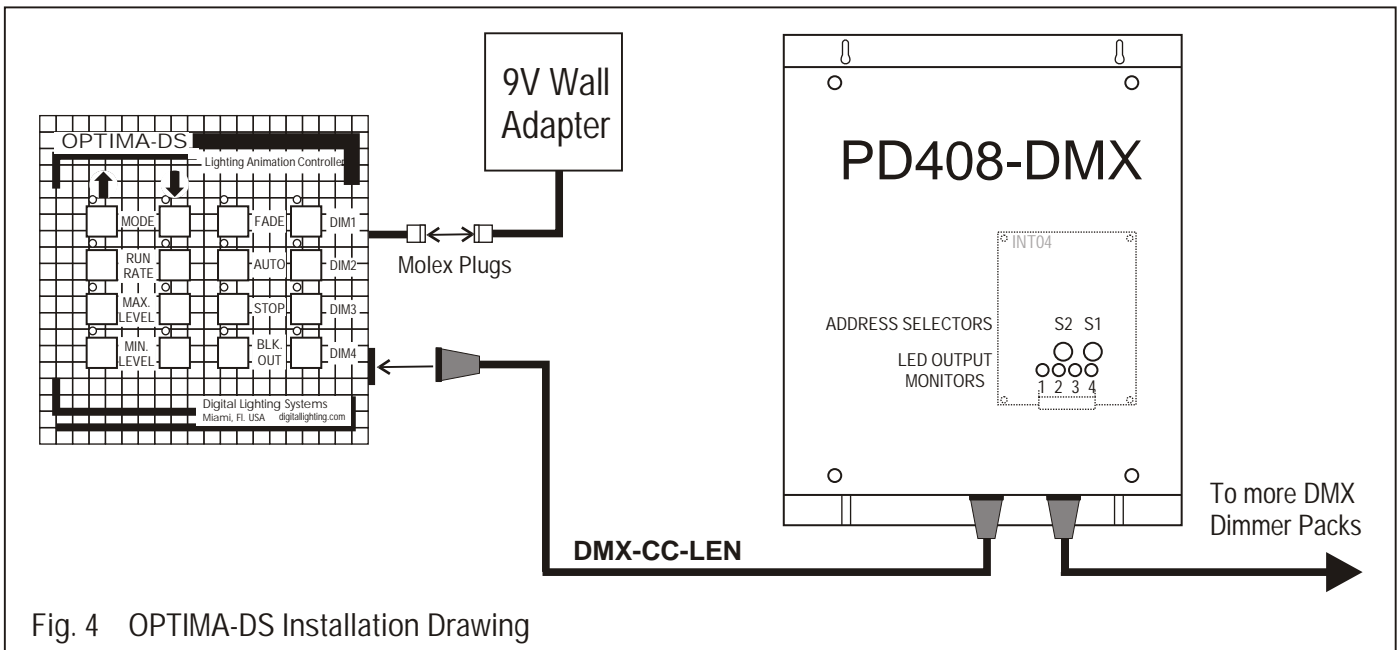
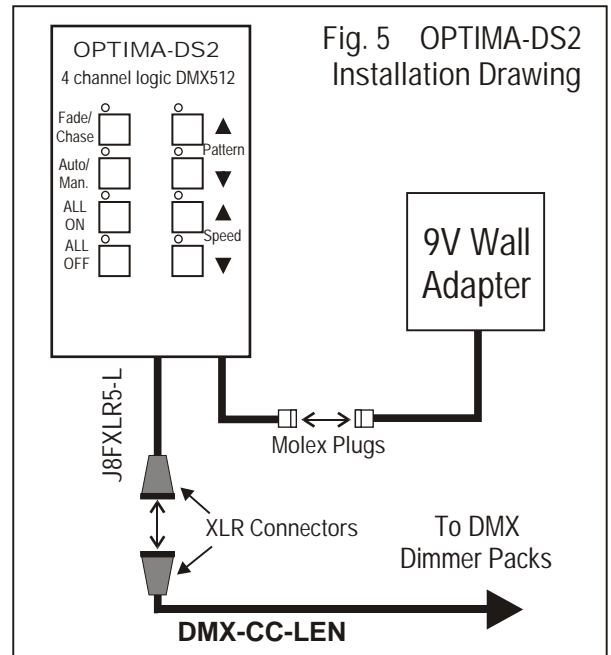

Fig. 4 OPTIMA-DS Installation Drawing
Fig. 5 OPTIMA-DS2 Installation Drawing
D - Installation Instructions (See Figs. 4 & 5 below).
1. Install the OPTIMA in a convenient location. Fig. 4 shows an OPTIMA-DS which has a female XLR connector mounted on the side of its aluminium enclosure. OPTIMA-DS2 models are mounted in deep single gang masonry boxes and have a female XLR connector mounted externally (See Fig. 5 below).
The **OPTIMA** panels use a standard 5-Pin Female XLR connector to connect to DMX equipment as seen in Figs. 4 & 5. They are also available on request with an unterminated pigtail that plugs into the back of the unit so that customer may make their own DMX connections or with a pre-terminated cable with XLR connector to the customer's desired length (J8FXLR5-L). An external transformer supplies power via a 2-pos. Molex type connector.